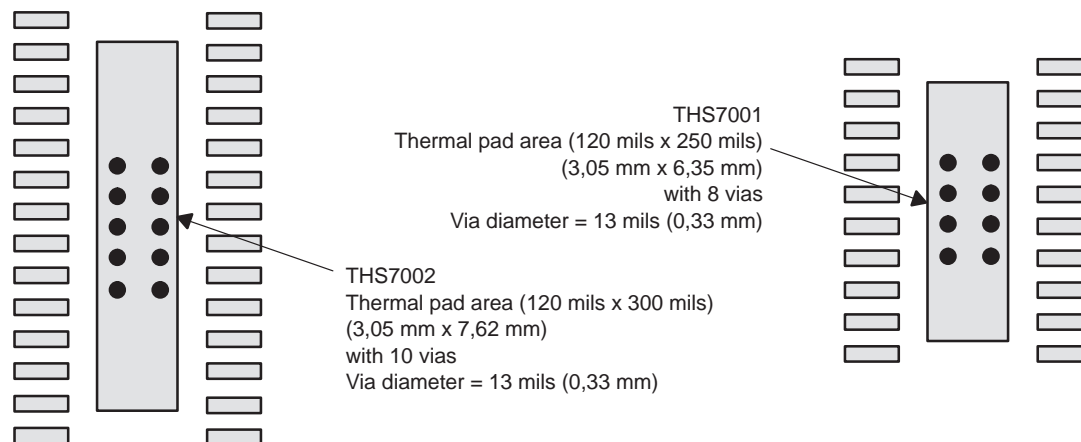

Figure 68. PowerPAD PCB Etch and Via Pattern
1. Prepare the PCB with a top side etch pattern as shown in Figure 68. There should be etch for the leads as well as etch for the thermal pad.